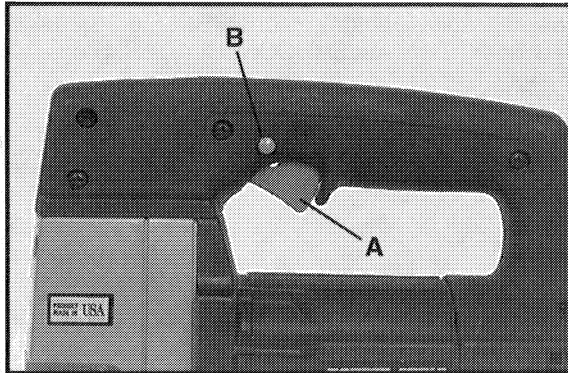

Fig. 5
2. Squeeze trigger switch (A), Fig. 5, to start motor. Release trigger to stop motor. This saw has a variable speed switch: as the trigger switch is squeezed, the speed of the saw blade increases.
3. **LOCK BUTTON** – A lock button (B), Fig. 5, is provided to keep the saw running at the fastest speed without holding the trigger switch “ON”. To lock the trigger switch “ON”, squeeze the trigger as far as it will go, push in the lock button and release trigger.